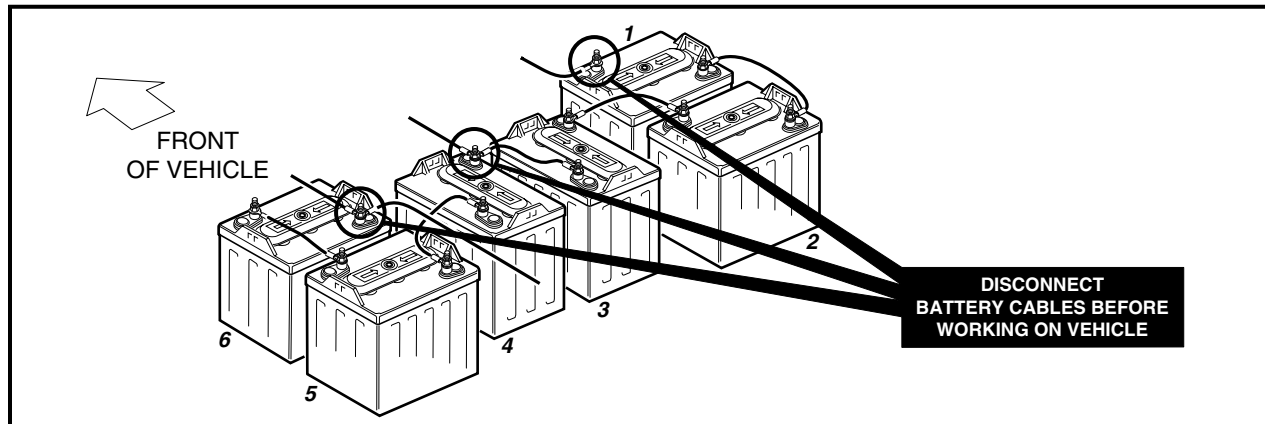

Figure 10-1 V-Glide Battery Configuration
- **To avoid unintentionally starting the vehicle, disconnect the batteries as shown (Figure 10-1, Page 10-2).**